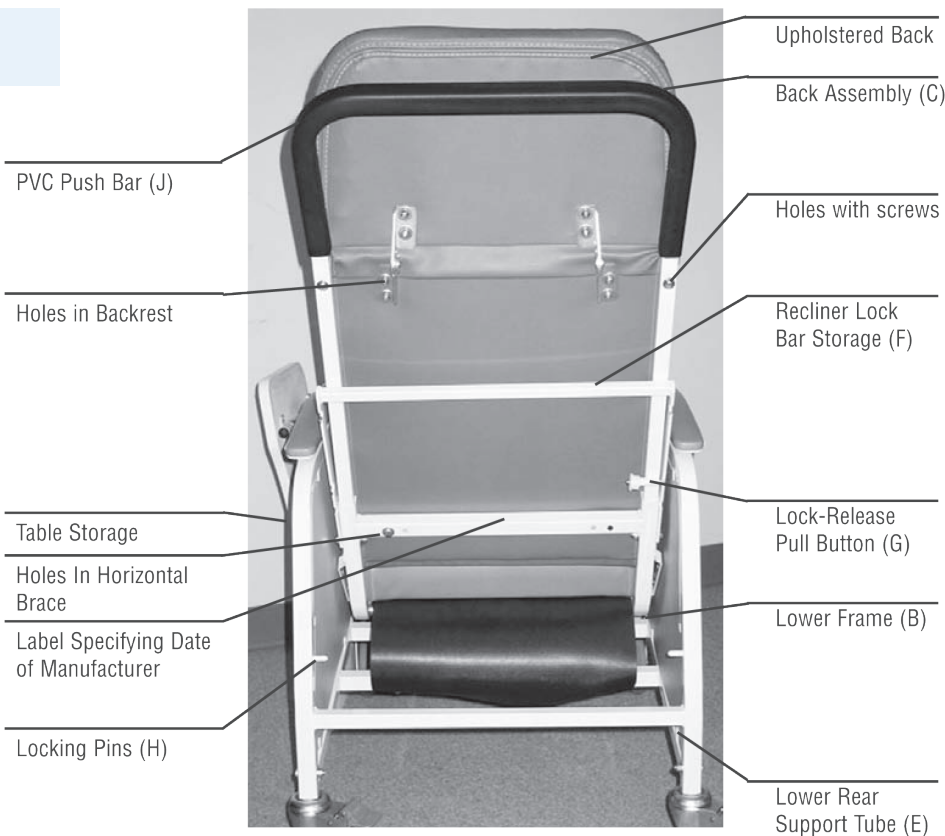

Figure 1
1. Ensure recliner lock bar is in the stored position. See Fig. 1.
3. Grasp armrest with one hand, and PVC push bar (J) with the other hand.
6. Set recliner Lock Bar (F).